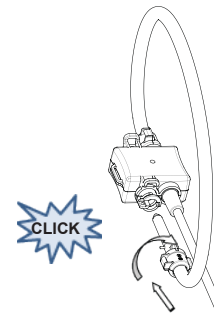

Figure 3
- Slide the coil cable into the enclosure (2). (Fig. 3)